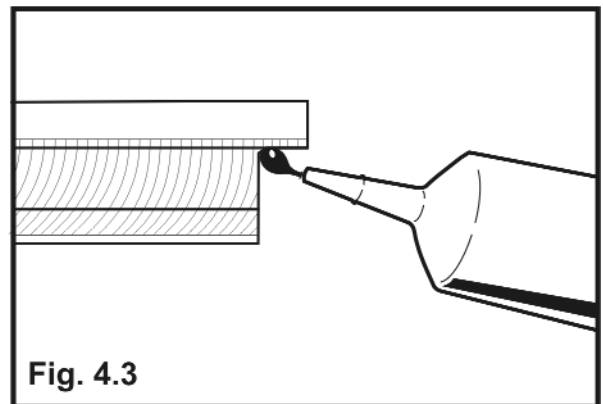

Fig. 4.3
- 4.3 Apply a continuous 1/8" bead of Kährs Landobond Adhesive (sku # 710225) to bottom inside edge of replacement board grooves as shown in Fig. 4.3.